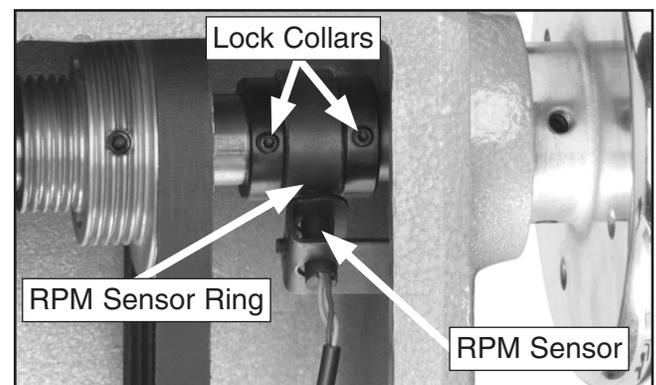

Figure 50. RPM sensor.
6. Position the spindle RPM sensor ring in-line with the RPM sensor. Slide the lock collars snug against each side of the sensor ring, then tighten the set screws (**Figure 50**).